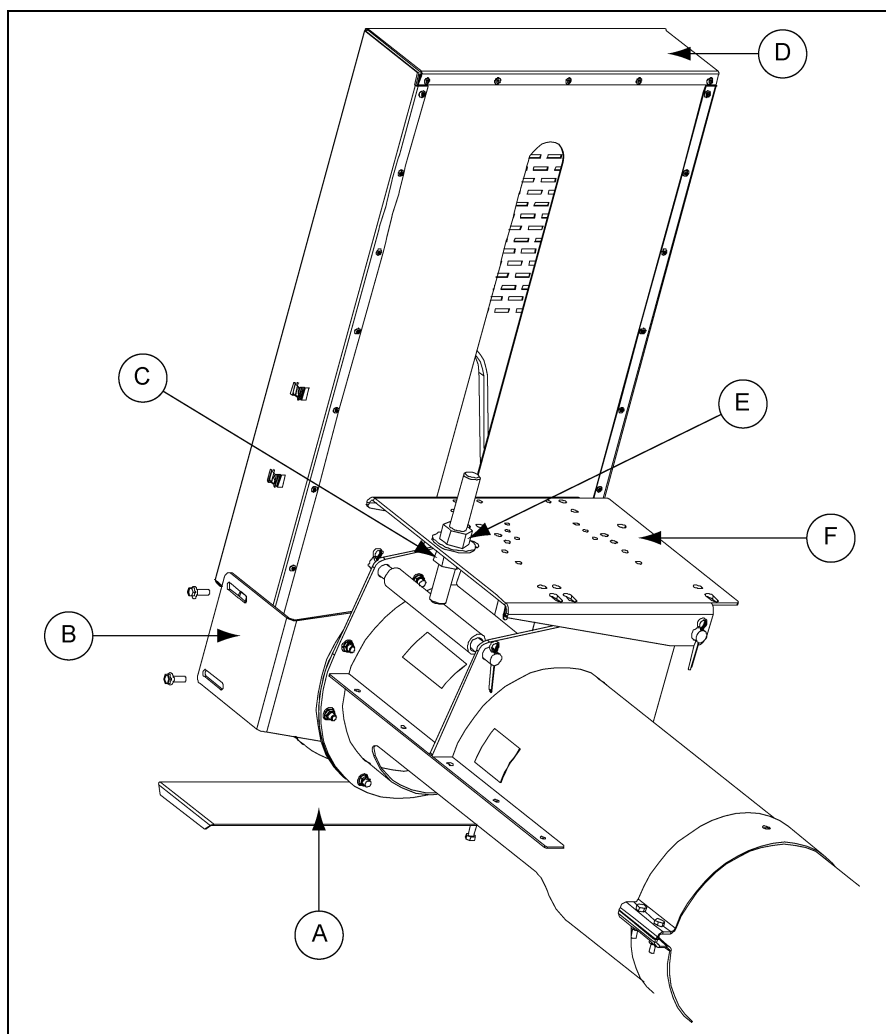

Figure 4N
3. Once the desired tension is reached, tighten the upper motor mount adjustment nut down onto the motor mount plate to lock it into place. (See Figure 4N on Page 27.)
3. Align the motor shaft and the flight drive shaft in the belt guard's slot, making sure that the belt guard DOES NOT contact either pulley or shaft and tighten down the belt guard mounting brackets to the bearing plate. *(See Figure 4N.)*